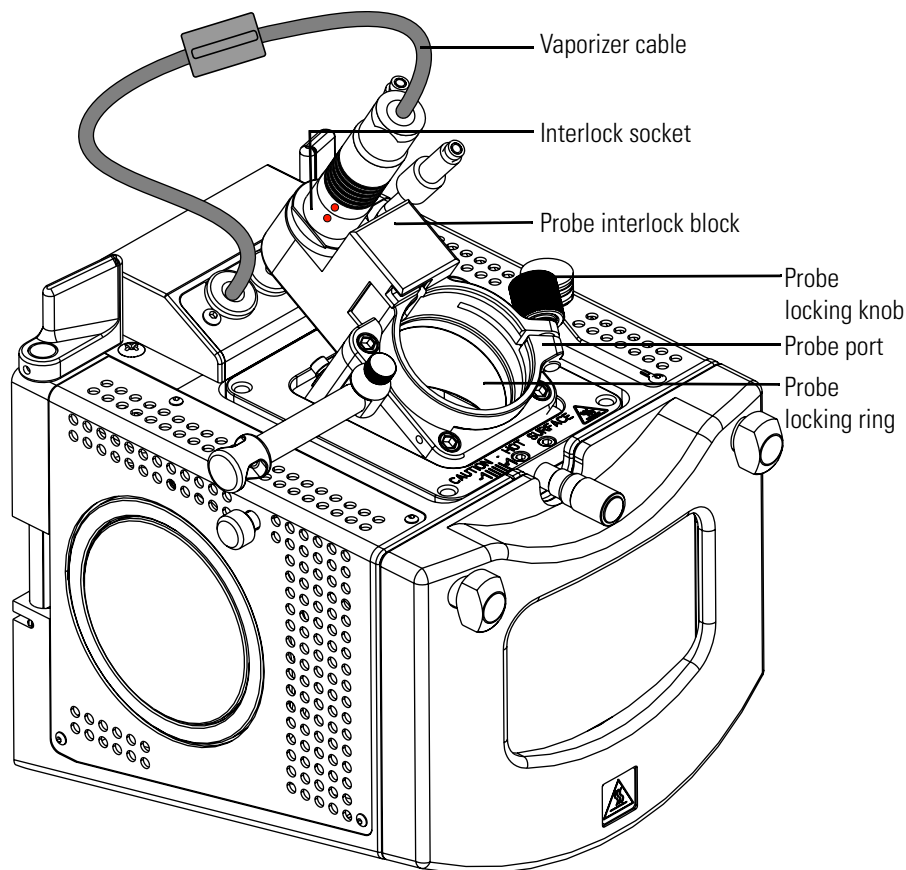

Figure 8-20. Ion Max API source housing without a probe
4. Turn the probe locking knob counterclockwise until the probe locking ring is opened to its widest position (Figure 8-20).
6. Lock the probe in place by turning the probe locking knob (see Figure 8-20 on page 8-37) clockwise until you feel resistance.
- Connect the sheath gas fitting (blue) to the sheath gas inlet (S).
- Connect the auxiliary gas fitting (green) to the auxiliary gas inlet (A).